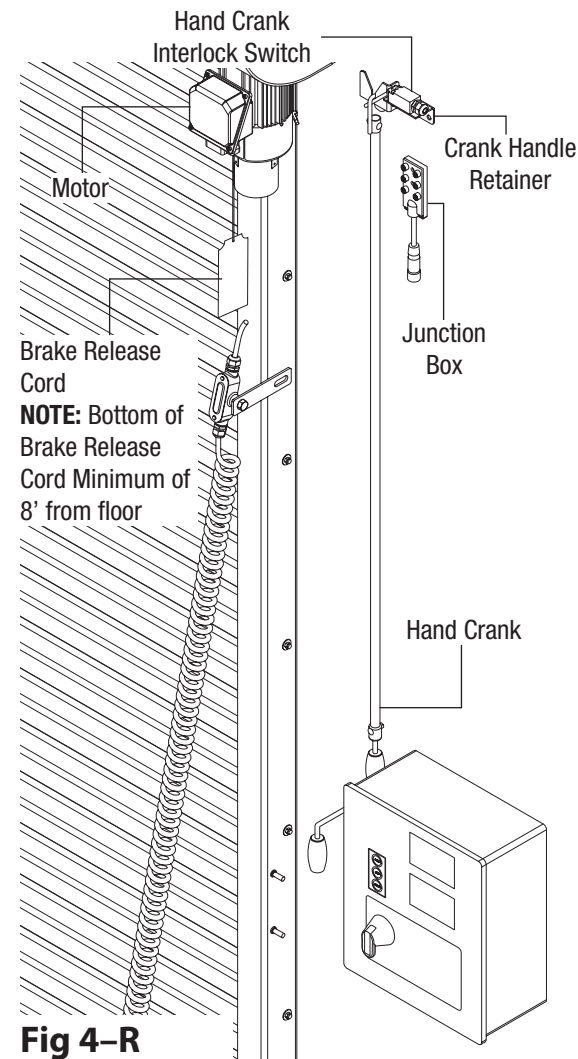

Fig 4-R
B. Find a suitable and easily accessible location for the **Junction Box**, **Fig. 4-S(a)**.